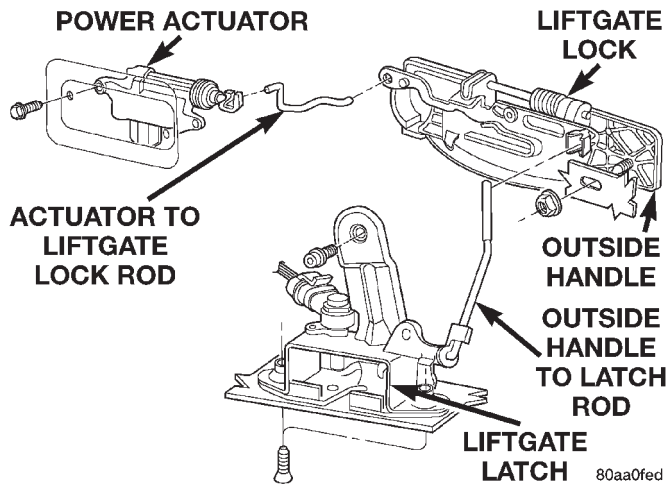

Fig. 93 Liftgate Latch
- (1) Raise liftgate.
- (2) Remove liftgate trim panel.
- (3) Remove screws attaching latch to liftgate (Fig. 93).
- (4) Disconnect rod from latch.
- (5) Disconnect power lock connector from handle, if equipped.
- (6) Remove latch from liftgate.